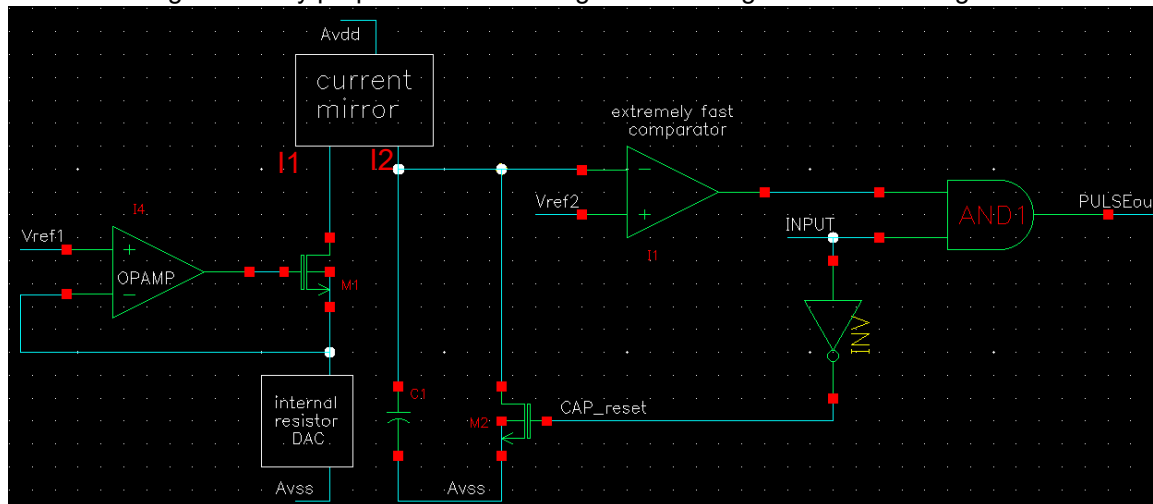

Figure 5: Flux Timing Generation
The timing for Fluxing, Charging (mode1 only), and Firing is controlled by the circuit in Figure 5~~Error! Reference source not found.~~. A current (I_1) is set-up by forcing a voltage (V_{ref1}) across a DAC programmable resistance value. That current (I_1) is then mirrored to a current I_2 and used to charge a capacitance to a voltage level (V_{ref2}). When the **CLK** signal goes high, the **FluxOut** signal will go high until the capacitor is charged to the V_{ref2} level. The **FluxOut** high time will follow Equation 2.